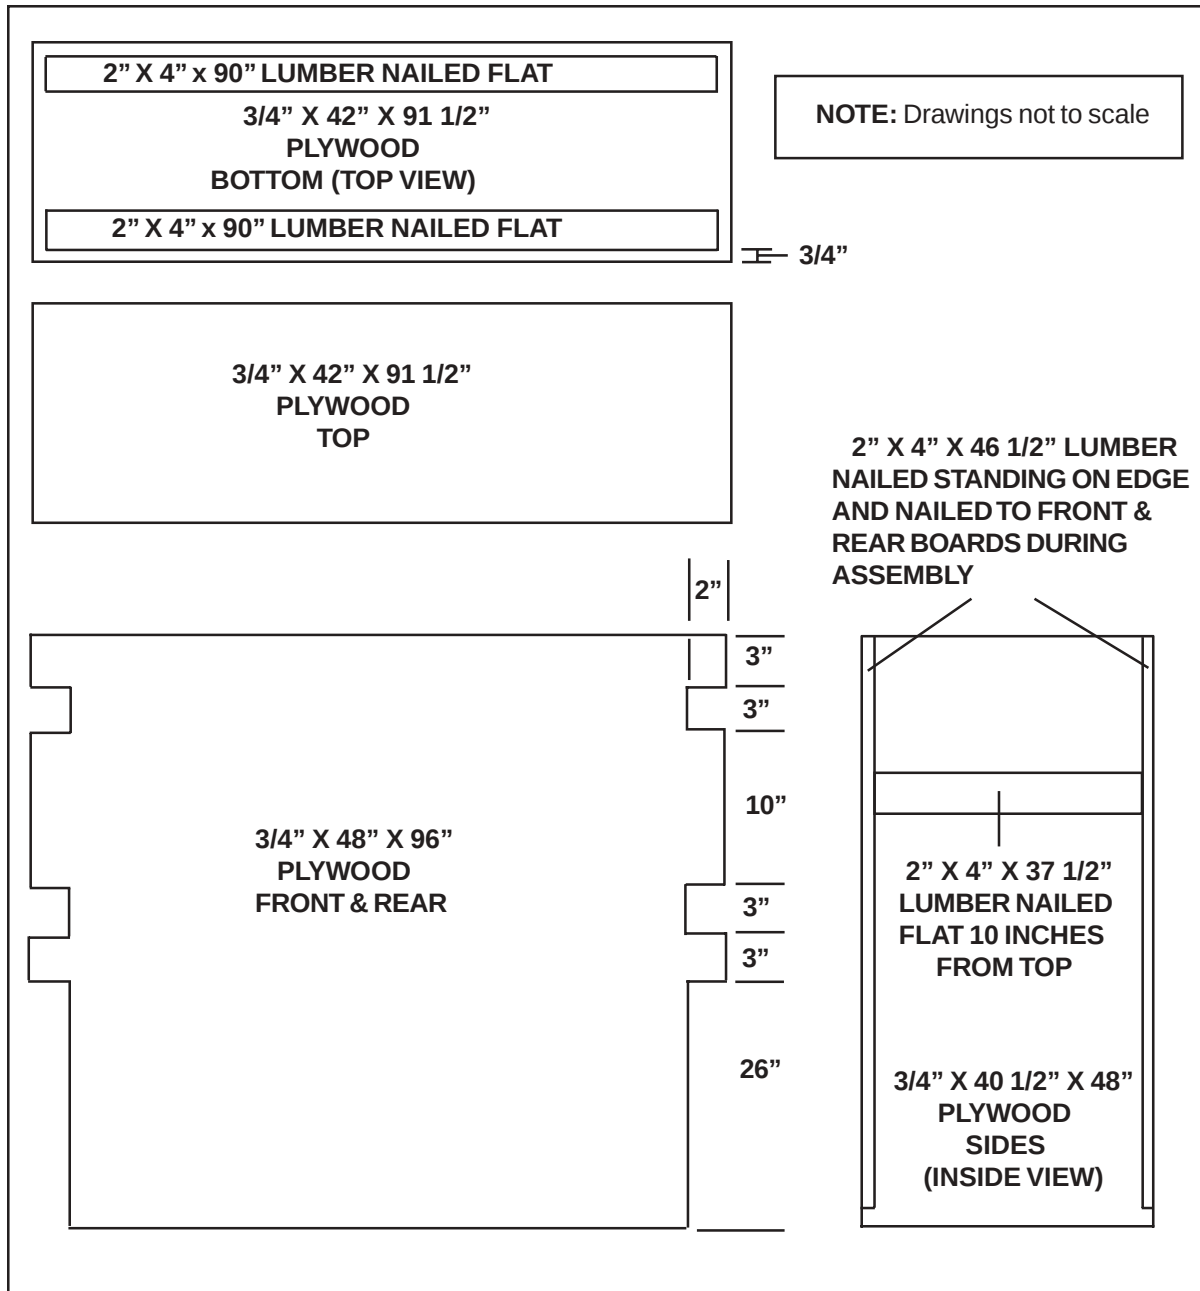

Figure 4-5. Rear Equipment Box Built
- b.** Build the rear equipment box using 16d nails and as shown in Figure 4-5.